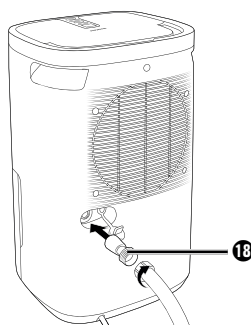

Fig. 3
- ◆ If you are using the EU garden hose adapter **18**, screw a garden hose onto the EU garden hose adapter **18** (see figure 3).